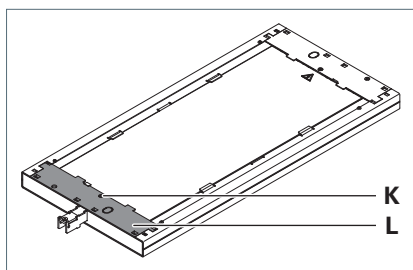

Fig. 5: Removing the cover.
- ▶ Unscrew the screw **K** from the cover **L**, see Fig. 5.